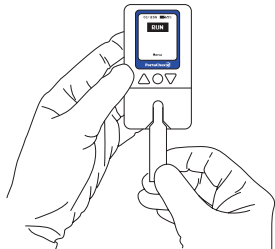

Fig. 2
2. When “RUN” appears on the display screen, insert the PortaSCC® test strip. The sample well must face down (Fig. 2).